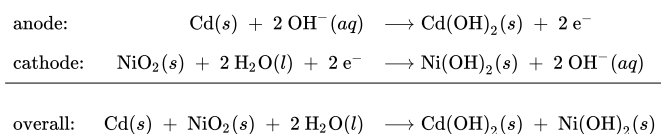

**Figure 18.5b:** Alkaline batteries were designed as direct replacements for zinc-carbon (dry cell) batteries (credit: Chemistry (OpenStax), CC BY 4.0).
**Alkaline batteries** (Figure 18.5b) were developed in the 1950s partly to address some of the performance issues with zinc–carbon dry cells. They are manufactured to be exact replacements for zinc-carbon dry cells. As their name suggests, these types of batteries use alkaline electrolytes, often potassium hydroxide. The reactions are